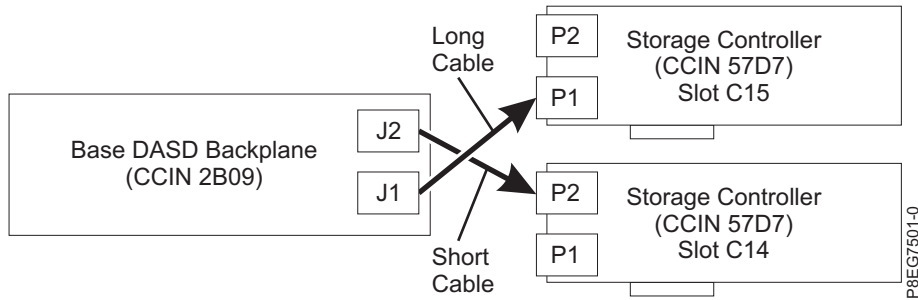

Figure 10. Reconnecting the SAS cable in a split-disk configuration
- If you have two PCIe3 x8 SAS RAID internal adapters (CCIN 57D7) (split-disk feature), the short SAS cable connects the upper disk drive backplane connector (J2) to the P2 connector on the adapter in slot P1-C14. The long SAS cable connects the lower disk drive backplane connector (J1) to the P1 connector on the adapter in slot P1-C15. See Figure 10 on page 10.